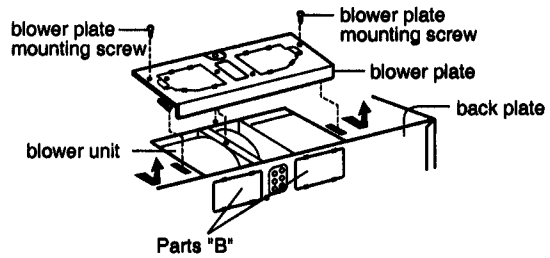

Figure 17
1. Remove two blower plate screws. Remove the blower plate from cabinet. See Figure 17.